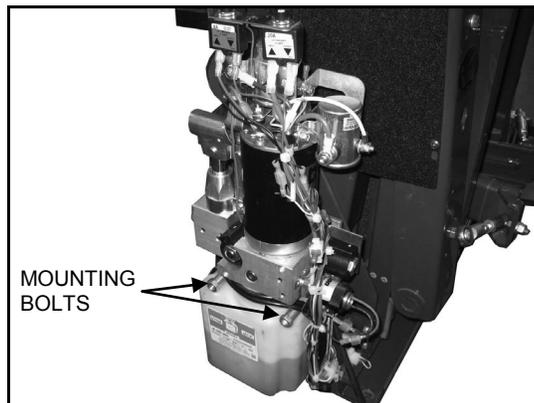

FIGURE 3-42
6. Refer to **Figure 3-42**. Disconnect electrical connections to pump.
7. Refer to **Figure 3-42**. Remove two mounting bolts that mount pump to bracket. Retain for installation.